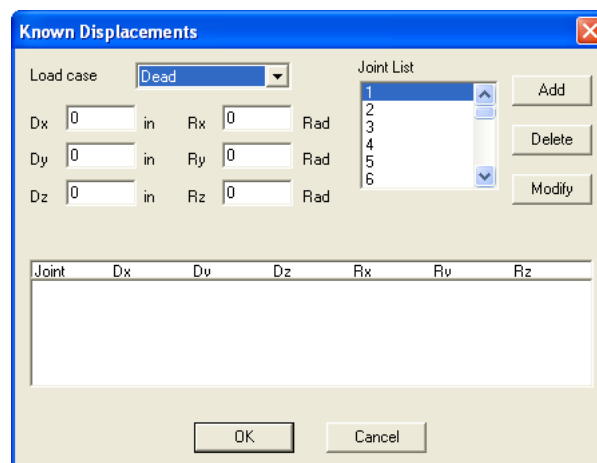

Figure 3-33 Known Displacements dialog box
- From the **Analyze** menu, select **Known Displacements**. The dialog box of Figure 3-33 appears. Some text boxes may not be available depending on the structure type selected.